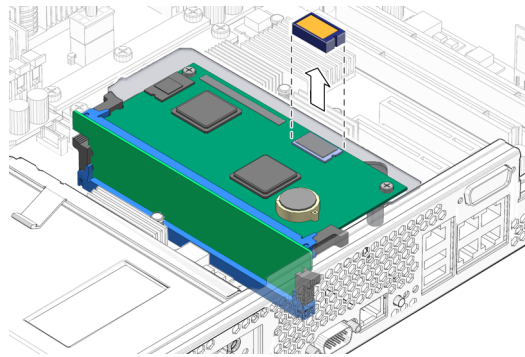

FIGURE 4-16 Pulling the NVRAM From the System Controller Board
2. Carefully pull the NVRAM from the system controller board (FIGURE 4-16).